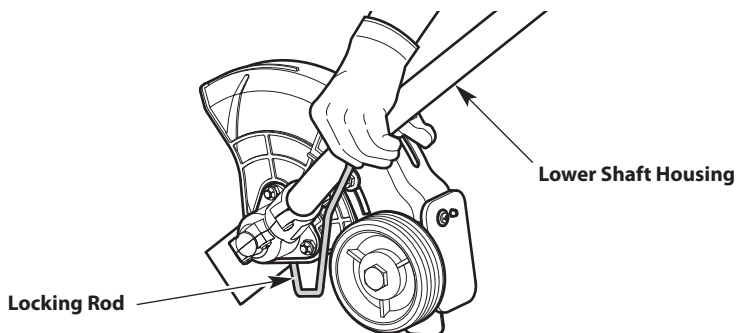

Fig. 17
2. Keep the locking rod in place by holding it next to the lower shaft housing (Fig. 17).
5. Keep the locking rod in place by holding it next to the shaft housing (Fig. 17).